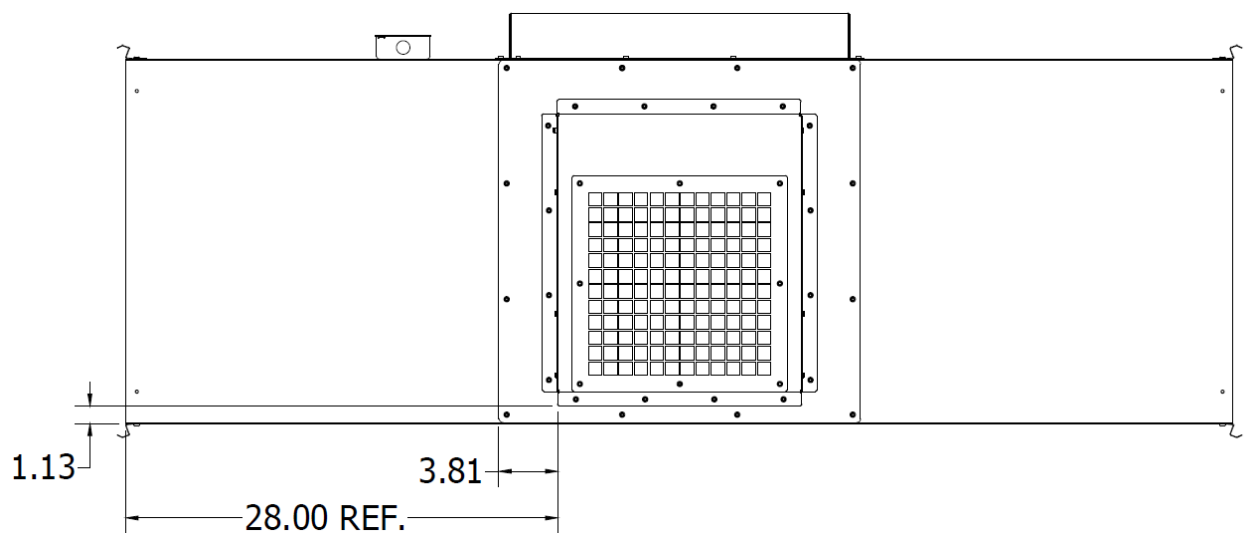

FIG. 10
3. Using supplied self-drilling sheet metal screws, attach silencer. See **FIG. 10** for location of silencer assembly. 16 New holes will have to be drilled on the exhaust panel.